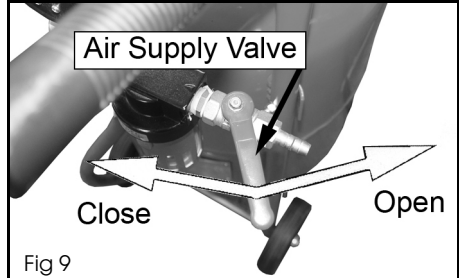

Fig 9
2. Start compressor and open the air supply valve, see Fig 9.